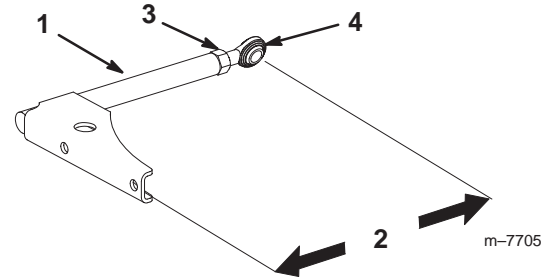

Figure 55
1. Loosen the jam nut and rotate the ball joint counterclockwise, one turn at a time. (Fig. 55).
2. Adjust each side the same amount. Each push arm should have a nominal length of 13-1/2 inch (34 cm) at a 15-degree twist (Fig. 55).